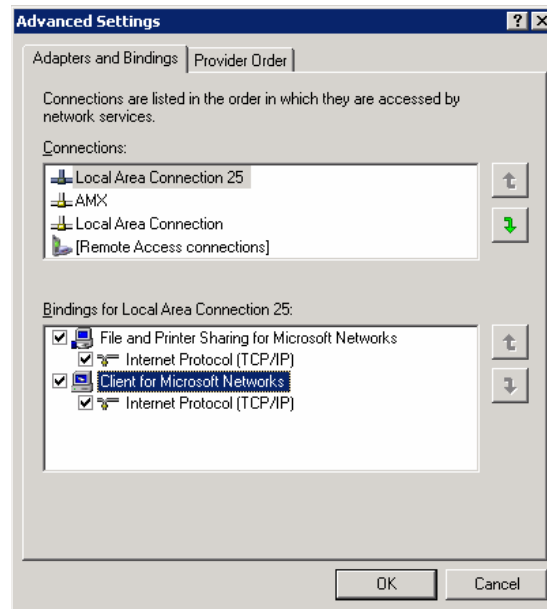
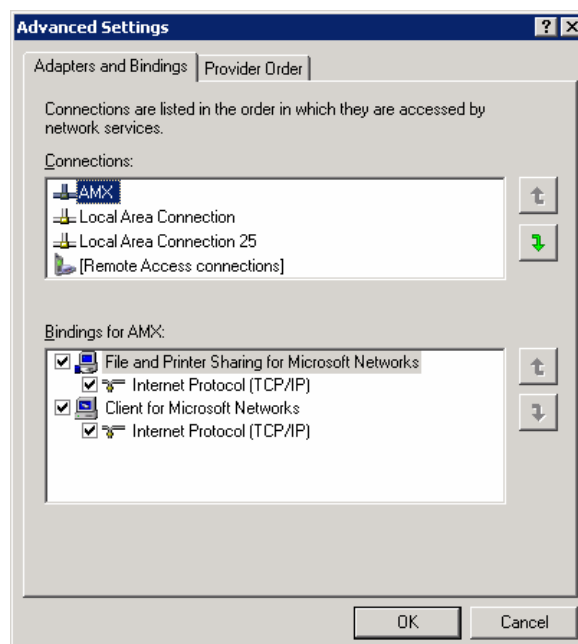

FIG. 87 Advanced Settings window
FIG. 88 Moving the Local Area Connection
3. From the *Advanced* menu, select *Advanced Settings...* to open the *Advanced Settings* window (FIG. 87).
4. Under the *Adapters And Bindings* tab, the user needs to make sure the Local Area Connection is not at the top of the *Connections* list. If it is at the top of the list (FIG. 87), select it and use the *down* arrow to the right of the list to move it to the bottom of the list (FIG. 88).